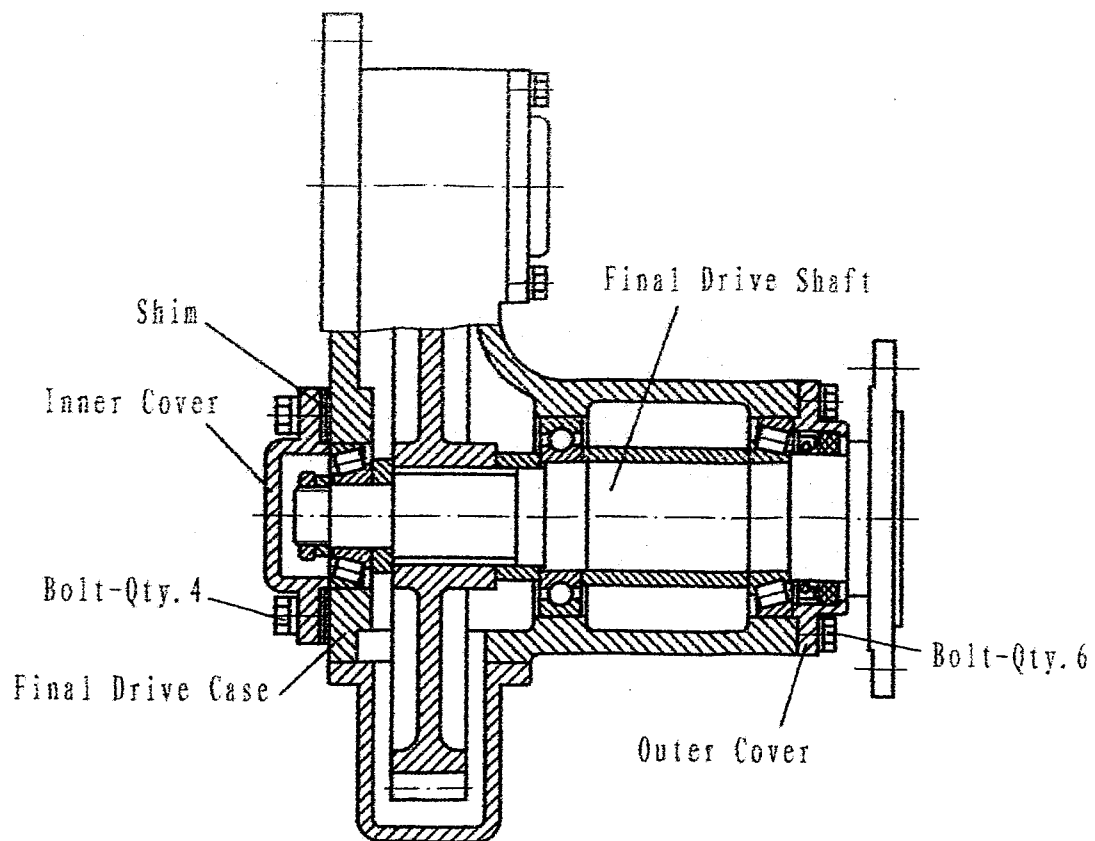

Fig.9 Adjustment of the Final Drive
4. Insert enough shims to maintain a gap between the inner cover and the case body within a range of 0.03 – 0.10 mm. See Fig. 9.